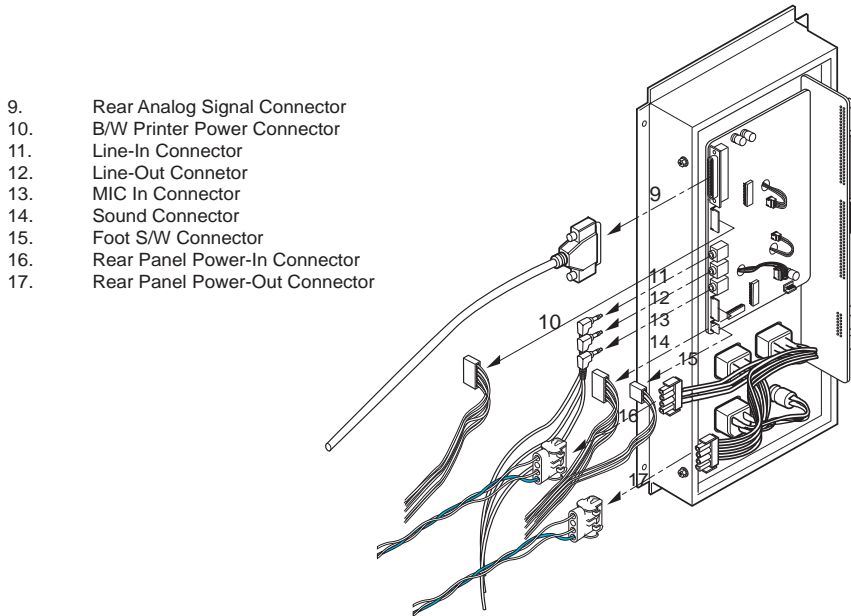

Figure 8-70 Disconnecting 9 connectors
8.) Disconnect 9 connectors (9-17) from the right side of the Panel. Refer to Figure 8-70.